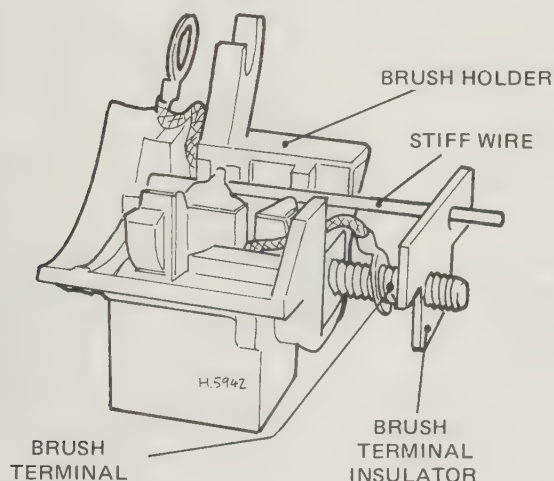

Fig. 10.6. Alternator brushholder assembly (Sec. 11)
- 7 Refit the springs and brushes into the holder assembly and retain them in place by inserting a piece of wire through the rear housing and brush terminal insulator as shown in Fig. 10.6. Make sure enough wire protrudes through the rear of the housing so that it may be withdrawn at a later stage.